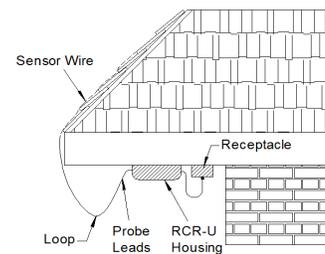

Fig. 5 Sensor Wire Application without Gutter
6. For Roof without gutter- Lay the sensor wire along the triangular weave of the heating cable as shown on Fig. 5 and secure the main housing under the eave of the roof as shown on Fig. 5.